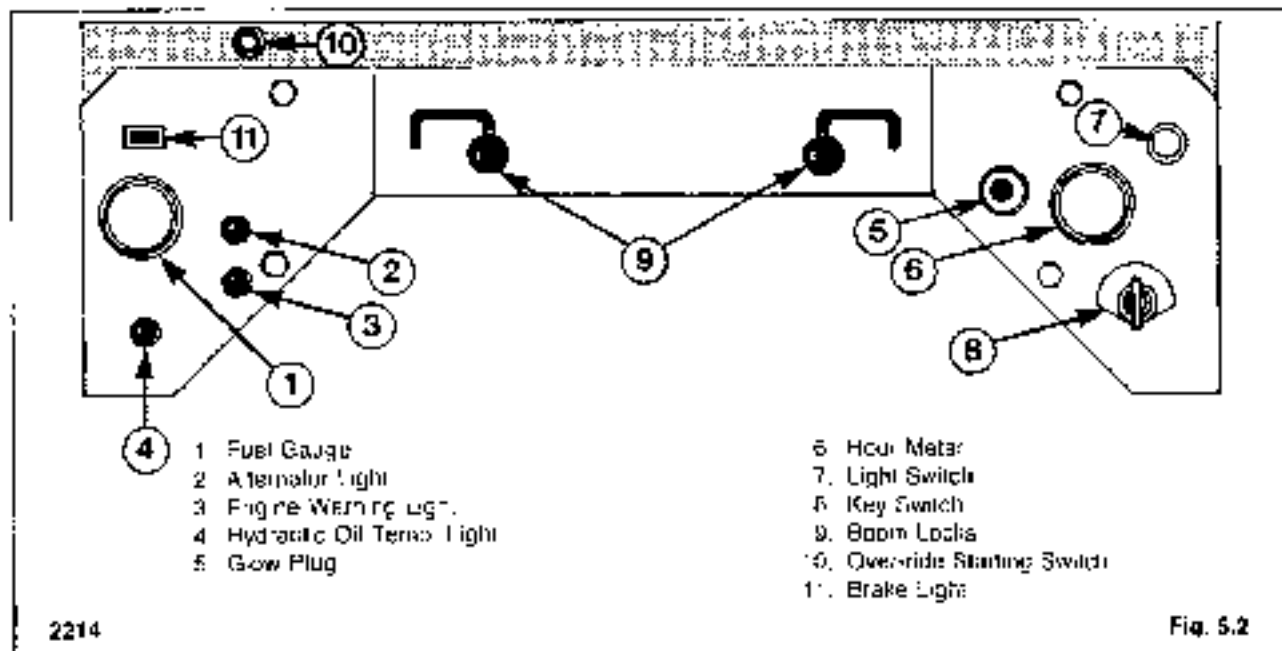
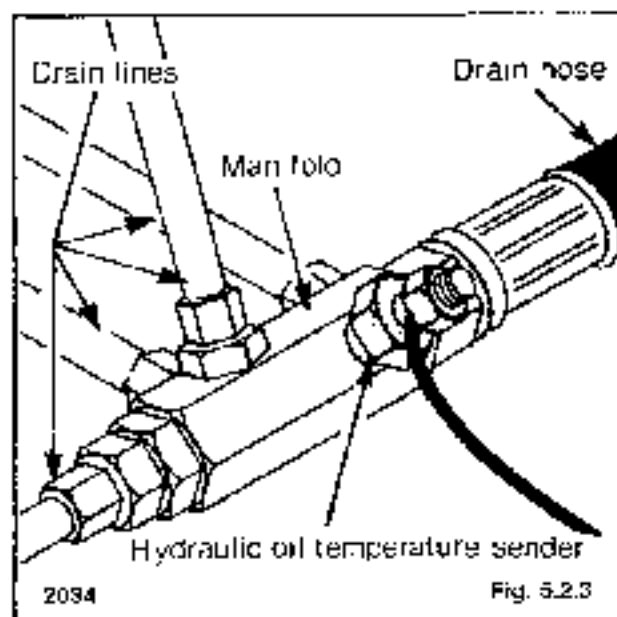

Fig. 5.2
Fig. 5.2.3
The fuel gauge indicates the quantity of fuel in the fuel tank (Fig. 5.2). The fuel tank capacity is 18 gal. (60 L). The diesel engine must not be allowed to run out of fuel otherwise air will have to be removed from the fuel (Refer to Section 7 — Engine).
The alternator warning light will turn on if the alternator is not producing sufficient current (Fig. 5.2 item 2). With the key switch in the ON position the alternator light will be on. When the engine starts the alternator light will go off. For complete operating description and testing of the charging system refer to engine repair manual.
The hydraulic oil temperature light (Fig. 5.2) measures the temperature of the hydraulic oil. The temperature sender is located in the hydraulic pump and motor drain manifold (Fig. 5.2.3). If the hydraulic oil temperature light comes on during operation shut off the engine and determine the cause of over heating. Check the radiator and hydraulic oil cooler for air flow restriction first before checking for a malfunction of the sender. Refer to section 1.8 and 2.4 for troubleshooting of the hydraulic and hydrostatic systems.
The engine warning light serves the dual function of monitoring both the engine oil pressure and engine coolant temperature (Fig. 5.2 item 4).
The hour meter records the number of engine operating hours and has a total read out of 9999.9 hours (Fig. 5.2 item b). The meter winds approximately every 12 seconds and will run a short time after the ignition has been shut-off.
Rotating the key switch counterclockwise in the "heat" position closes the glow plug circuit and battery current flows through the glow plug heating element. The heat generated by the glow plug element pre-heats the air in the cylinder making it easier for the fuel injected into the cylinder to vaporize and ignite. An indicator on the instrument panel, Fig 5.2, will glow red when the air in the cylinder has heated to the correct temperature